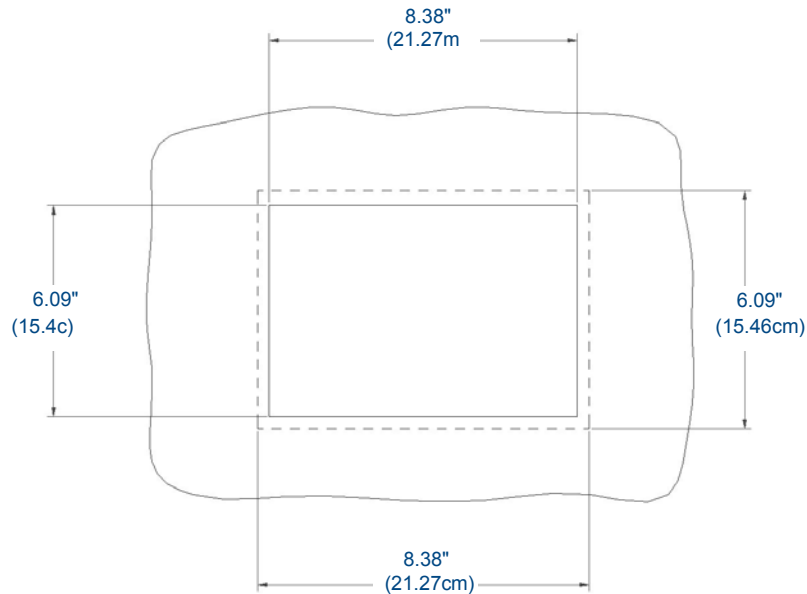

FIG. 10 Recommended cutout for plastic conduit box
1. Cut a hole into the wall or surface intended to hold the conduit box. The conduit box is sized 8.375 inches (21.27cm) long and 5.75 inches (14.60cm) high (FIG. 10), so the hole should be at least 1/4" (0.64cm) smaller in each dimension.